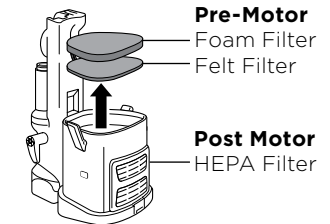

Fig. 21
- 2 Pull the 2 filters out from the top of the motor base. (Fig. 21)